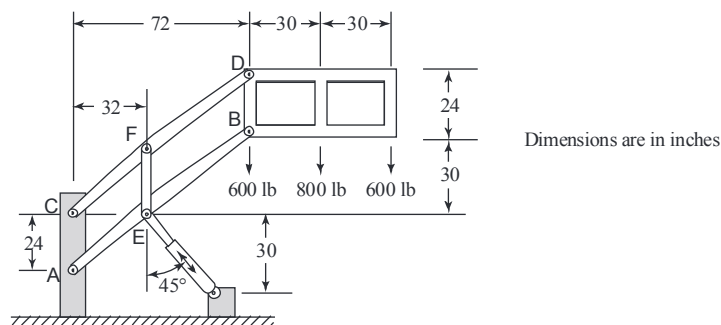

Figure P5-61
- 5.61** Design the support members,  $AB$  and  $CD$ , for the platform lift shown in Figure P5-61. Select a mild steel and choose suitable cross-sectional shapes with no more than a 4 : 1 ratio of moments of inertia between the two principal directions of the cross section. You may choose two different cross sections to make up each arm to reduce weight. The actual structure has four support arms, but the loads shown are for one side of the platform with the two arms shown. The loads shown are under operating conditions. Use a factor of safety of 2 for human safety. In developing the finite element model, remove the platform and replace it with statically equivalent loads at the joints at  $B$  and  $D$ . Use truss elements or beam elements with low bending stiffness to model the arms from  $B$  to  $D$ , the intermediate connection,  $E$  to  $F$ , and the hydraulic actuator. The allowable stresses are  $0.66S_y$  in bending and  $0.60S_y$  in tension. Check buckling using either Euler's method or Johnson's method as appropriate. Also check maximum deflections. Any deflection greater than  $\frac{1}{360}$  of the length of member  $AB$  is considered too large.